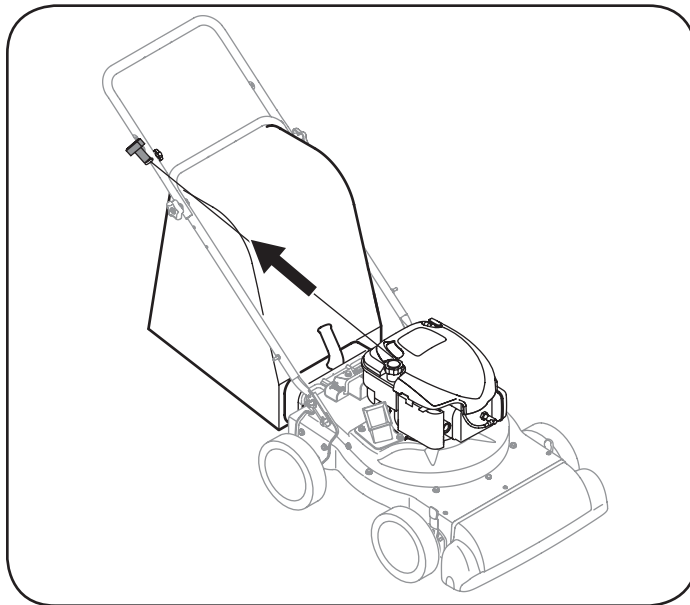

Figure 11
7. Standing behind the unit, grasp starter handle and pull rope out until you feel a drag. See Figure 11.